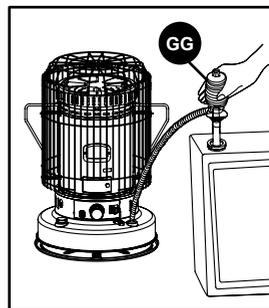

Fig.10
Before fueling the heater, take the heater, the kerosene, and the manual siphon pump (GG) outdoors. To use the manual siphon pump, tighten the cap on the top of the siphon, place the straight tube into the kerosene container, and insert the flexible tube into the opening of the fuel tank. By squeezing the bulb of the siphon pump, fuel will be transferred from the kerosene container into the heater tank (Fig.10). Carefully watch the fuel gauge on the base of the heater so that you will know when the tank is getting full. When you approach the full mark, loosen the cap on top of the siphon pump. This will stop the flow of kerosene. **DO NOT OVERFILL YOUR HEATER.** Allow the siphon pump to drain thoroughly before you remove it from the tank and the kerosene container.